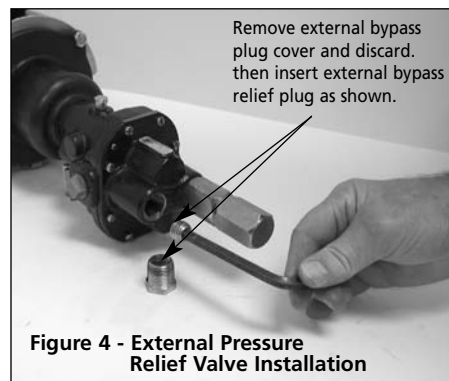

Figure 4 - External Pressure Relief Valve Installation
8. The pressure relief valve can be converted to an external relief. This will allow the relief to dump back to tank and allow longer periods of relief without pump damage. However, this is not a full-line pressure relief valve, and in cases where frequent extended pressure relief valve operation is anticipated, a full-line external pressure relief valve should be piped in the discharge line and connected either back to the tank or well down-stream of the pump suction inlet (See Figure 4).
(See Figure 13, Ref. No. 35) and discard. This plug is next to the pressure relief valve. In the bottom of the NPT hole, there is a second drilled and tapped hole. An optional external bypass plug (See Figure 13, Ref. No. 38 included) should be inserted in this hole and bottomed out. The open NPT port must now be piped back to the tank or well downstream of the pump suction (See Figure 4).